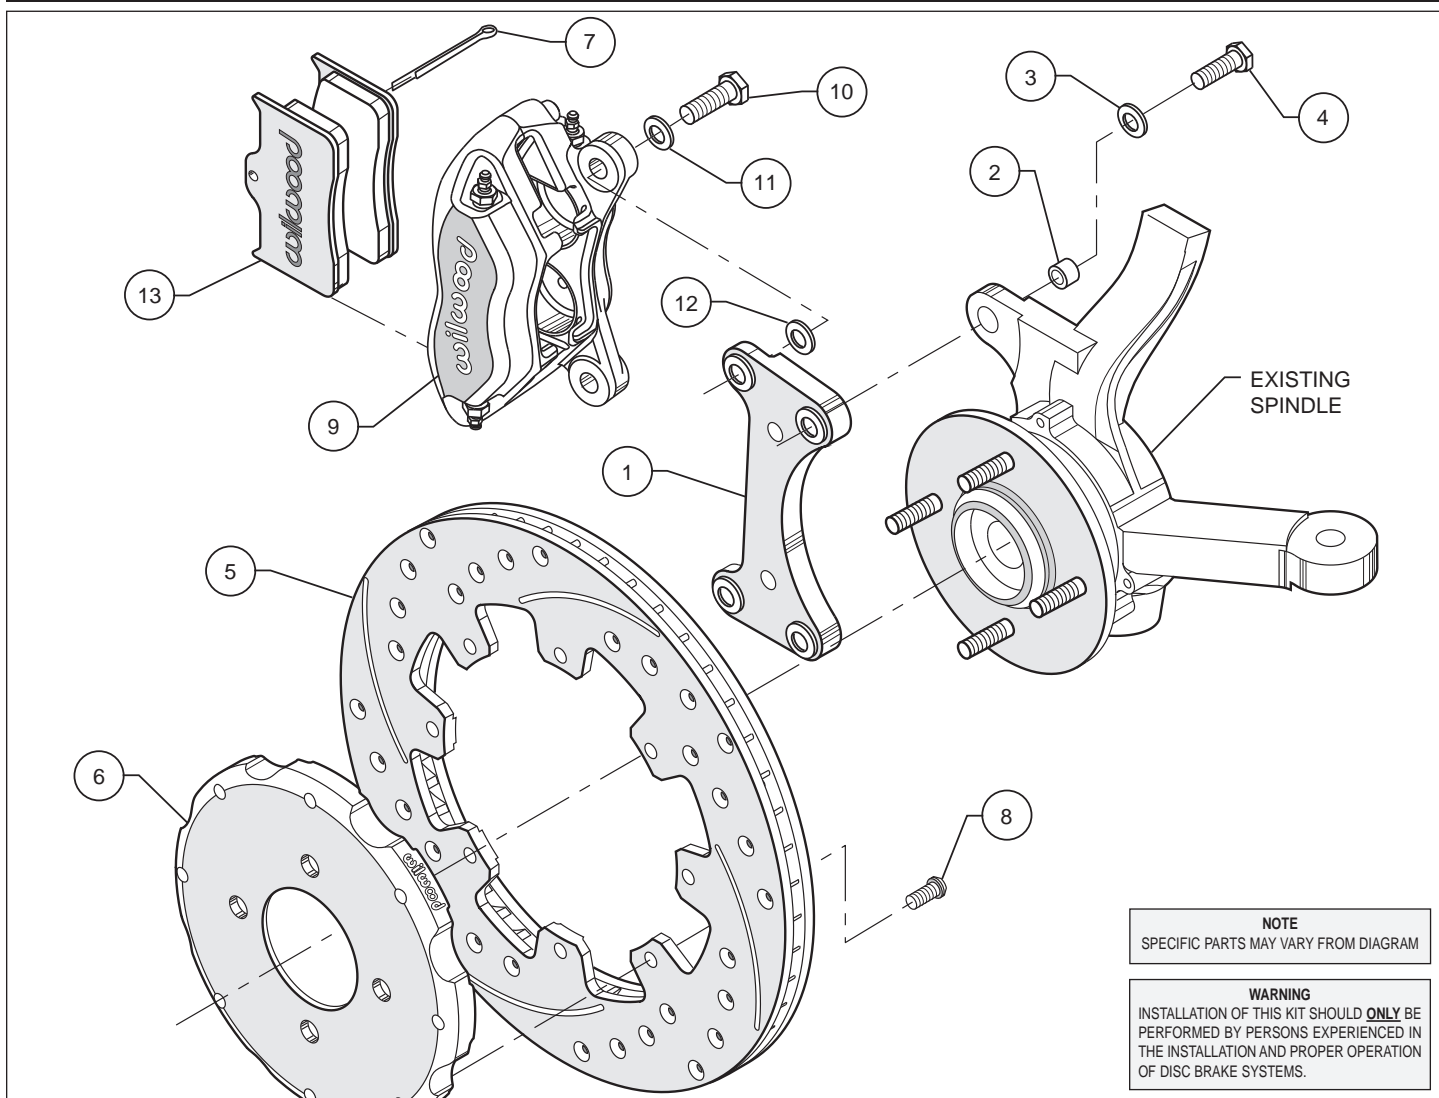

Figure 1. Typical Installation Configuration
- Insert one sleeve (2) each into the holes on the top and bottom of the spindle "ears" where the OEM caliper bracket was removed. Apply red *Loctite*® 271 to the caliper mounting bracket bolt threads (4) before installation of the caliper mounting bracket (1). Install the bracket with the flanged heads of the clinch nuts facing outboard, as shown in Figure 1. Slide bolt (4) through washer (3) and into the previously installed sleeve (2), from the backside of the spindle. Finger tighten. Repeat for the lower mounting holes. Torque bolts to 60 ft-lb.
- With the larger I.D. side of the rotor (5) facing away from the hat (6), attach rotor (5) to hat (6) using bolts (8) as shown in Figure 1. Using an alternating sequence, remove bolts (8) one at a time, apply red *Loctite*® 271 to the threads, and torque to 25 ft-lb.